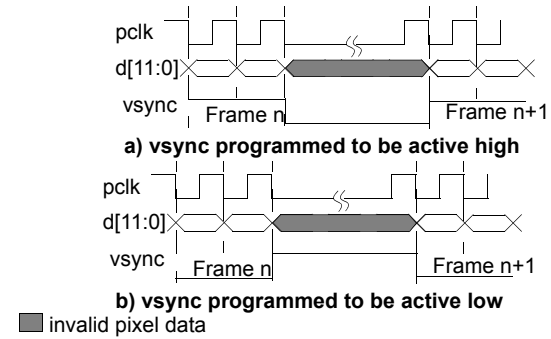

Figure 43. vsync in Level Mode
- Level mode should be used when the pixel clock, *pclk*, is programmed to operate in *free running mode*. In level mode the *vsync* output pin will go to the specified level (high or low) at the start of each frame and remain at that level until the last pixel of that row in the frame is placed on *d[11:0]* as shown in Figure 43. The *hsync* level is always synchronized to the active edge of *pclk*.